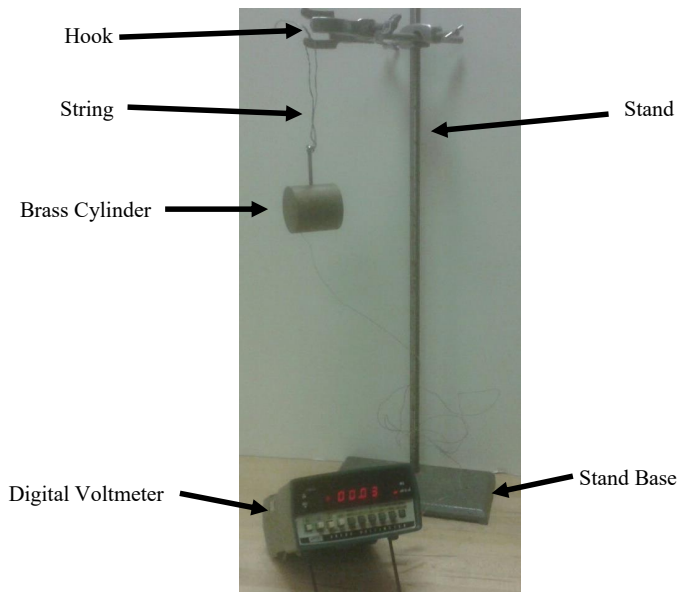

Figure 5: Experimental Apparatus
**4.1 Apparatus:** A heated brass cylinder is heated and suspended by a string and has a Copper-Constantan thermocouple fixed in it. The cylinder is let to cool while suspended motionless in air, figures 5 and 6.